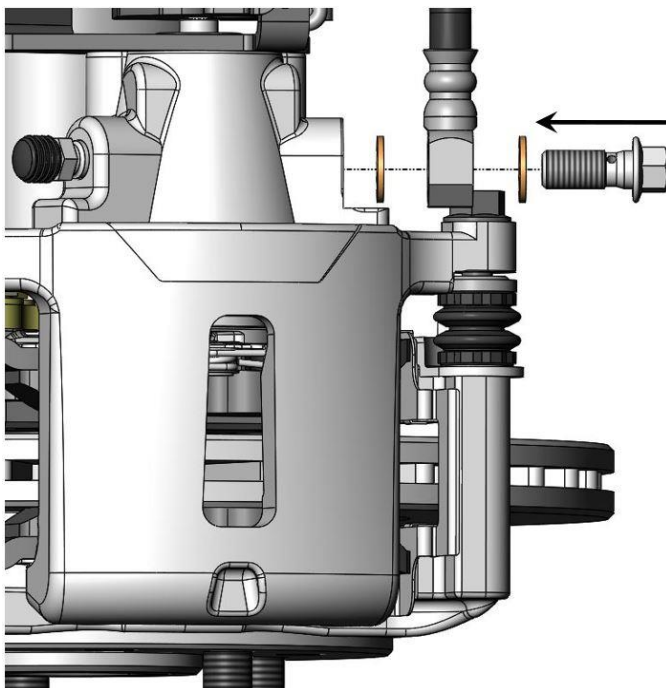
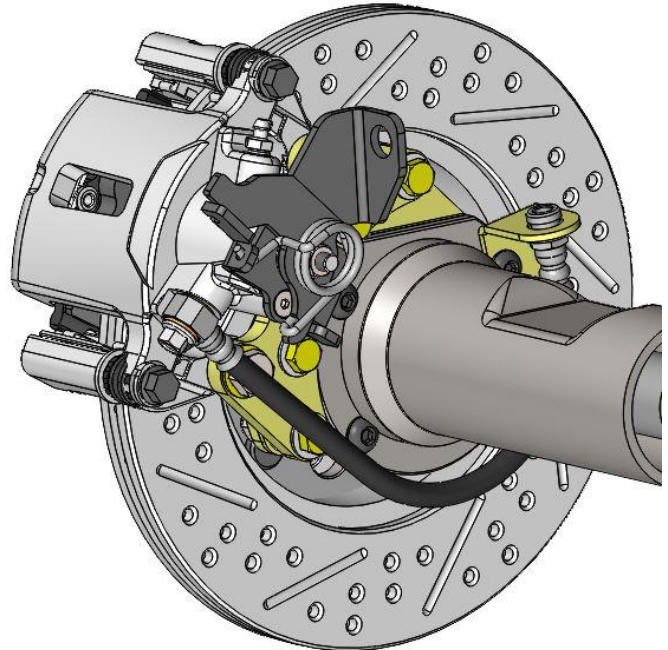

Figure 10a – Brake Hose Attachment to Caliper
Figure 10b – Brake Hose Attached at the Rear Axle Housing
13. Install the flexible brake hose. Attach the brake hose to the caliper using the provided banjo bolt and copper crush washers as shown in Figure 10a below. Next route the hose under the axle tube and attach it to the previously installed Brake Hose Mounting Bracket with the provided clip. Attach the hardline to the brake hose. **NOTE: Depending on the location and fitting size on the OEM hardline, it may be necessary to shorten and re-flare along with slightly bending the hardline to line up properly.** Proper installation of the flexible brake hose can be seen in Figure 10b below.